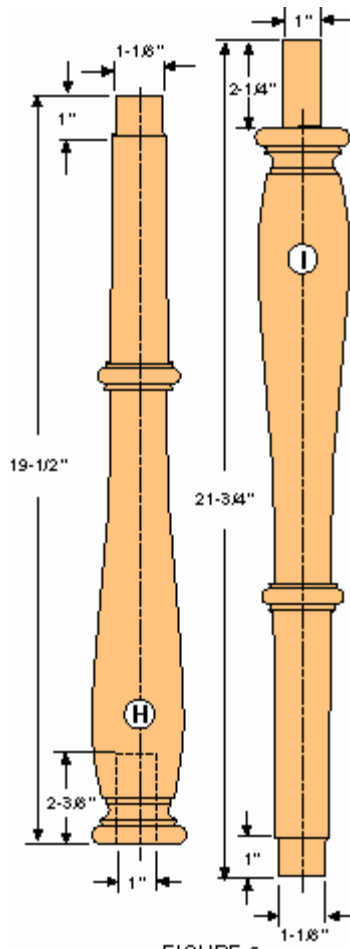

FIGURE 6
**5:** Turn both sections of your Blanket Rail (H & I) (See Fig. 6). Finish sand each section while it's still mounted in the lathe.
**6:** To finish the balls on the tops of the Posts (G), cut off the waste stock. Round over the balls using a double-cut wood file, then sand them smooth.
**7:** Set up your MARK V for Horizontal Boring and drill the 1" diameter x 1-1/2" deep holes in the bottom sections of your Posts (F). These holes will accept the 1" diameter "tenons" you turned on the upper sections of the Posts. Tilt your MARK V Worktable to 45-degrees and use your Rip Fence to form a V-block for holding the Posts while you drill these holes. Bore a 1" diameter x 2-3/8" deep hole in the end of one of your Blanket Rail Spindle halves (See Fig. 6).
**10:** Use a 7/8" Brad Point Bit or a Hollow Chisel Mortising set-up with a 1/2" Bit & Chisel set to create the Headboard and Foot Rail Post (F & G) mortises described here: a: 3-3/4" high x 7/8" wide x 9/16" deep mortises for the Side Rails (C) b: 3-3/4" high x 7/8" wide x 2-5/16" deep mortises for the Head & Foot Rails (B) c: 2" high x 3/4" wide mortises to the centerline of the Posts (F & G) for the Headboard (A)
**11:** Drill 1-1/8" diameter x 1" deep holes in the two Foot Rail Posts (F). These will accept the outer ends of the Blanket Rail